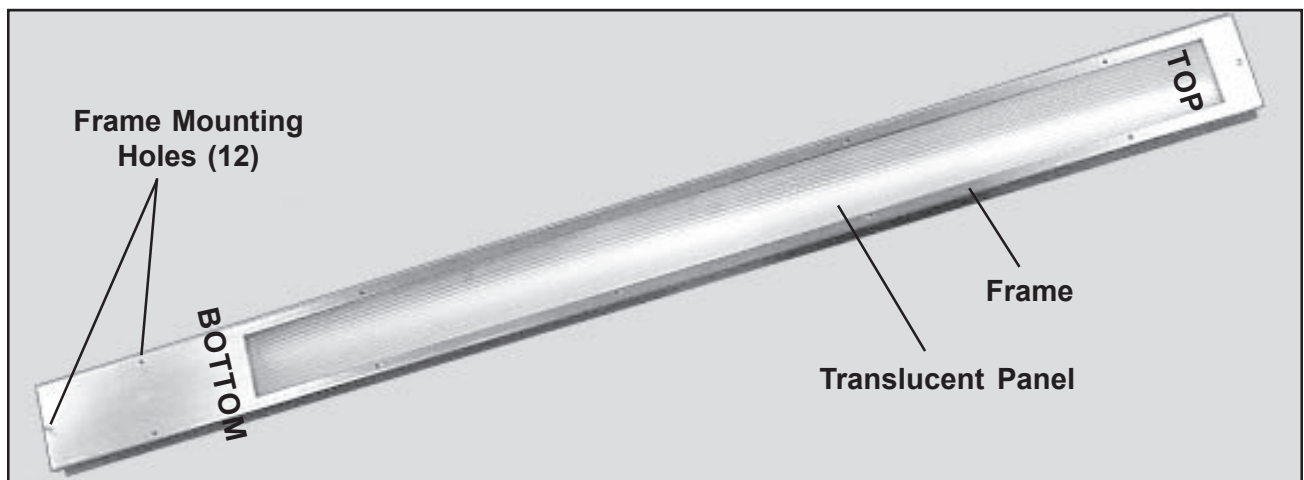

Figure 22. Light Fixture Dismounted from the Column
3. On the light fixture, remove the 12 screws which hold the frame and translucent panel to the fixture (Figure 22), and remove the frame and panel.
3. Remove the 12 screws which hold the frame and translucent panel to the light fixture (Figure 22), and remove the frame and panel.